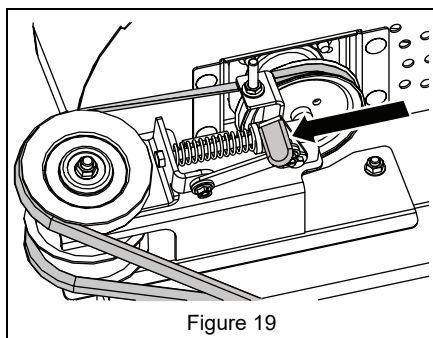

Figure 19
4. Rotate the idler assembly lever up and forward to place tension on the belt. See Figure 19.